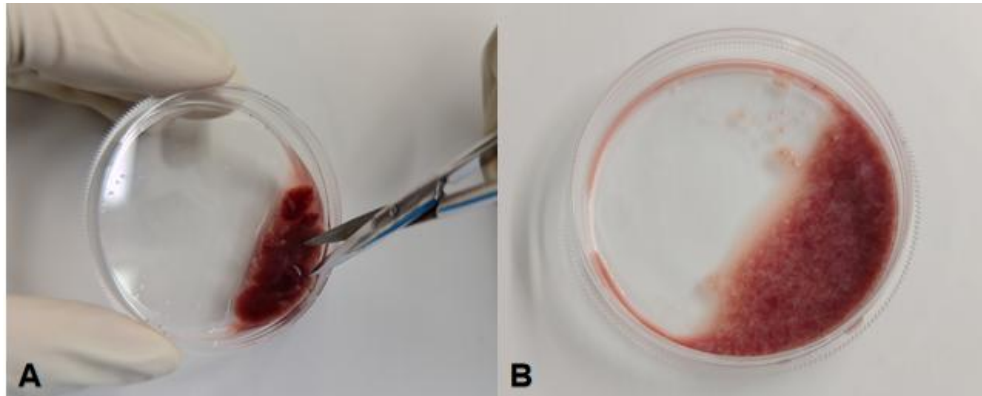

Figure 1. Treatment of liver tissue in vitro
- (1) Tissue Washing: Using a new set of ophthalmic scissors 3, curved forceps 1, bend forceps 1 to clamp the junction of the liver lobes and gently shake the liver tissue. At this time, blood stains flow out. discard the liquid in the dish and add new wash solution until the tissue is completely immersed. Rinse the tissue 2-3 times and use ophthalmic scissors 3 and curved forceps 1 to clean the blood stains, bile ducts, and blood vessels around the liver to obtain pure tissue. Transfer the tissue to a new glass culture dish, Add a little of **Specialized Washing Solution For Mouse Kupffer cells** until it just covers the tissue.
- (2) **Tissue Processing:** Tilt the dish about 45° to allow the liver tissue to gather at the bottom of the dish(which can be gently scraped off with curved forceps 1). Quickly cut the tissue into 1 mm³ pieces using ophthalmic scissors 3, until the tissue is sugar like (as shown in Figure 1) and there are no large pieces of tissue. Use a Pasteur pipette or a pipette with a wide mouthed tip to transfer the tissue fluid and transfer it to a 50 mL centrifuge tube. Add 5 mL **Specialized Washing Solution For Mouse Kupffer Cells** to clean the liver tissue culture dish and transfer it to the same centrifuge tube. Centrifuge at 300 g for 1 min, discard the supernatant, and retain the tissue precipitate.
- (3) **Tissue Digestion:** Add 5 mL of **Digestive Working Solution for Mouse Kupffer Cells** to the 50 mL centrifuge tube tissue sediment, blow and mix well, tighten the bottle mouth, wrap it with a sealing film to ensure no leakage, tilt it to allow tissue fragments to fully contact the digestion solution at 4°C for 16 hours of digestion (digestion time should not exceed 16 hours, as excessive digestion will have a significant impact on cell activity).
- (4) After digestion, remove the centrifuge tube and transfer it to a 37°C water bath shaker at 150 rpm for 15 minutes of digestion..
- (5) In the ultra-clean workbench, place a 70 µm Cell filter and 100 µm Cell Filter on a new 50 mL centrifuge tube. Pre-wash the filter with 1–2 mL Specialized Washing Solution For Mouse Kupffer Cells.
- (6) **Cell Filtration:** Remove the centrifuge tube and open it in the ultra-clean workbench. Blow the tissue suspension with a 5 mL pipette tip at least 30 times. Add 5 mL of **Specialized Washing Solution For Mouse Kupffer Cells** to dilute. Take the cell suspension at this time and filter it through a 100 µm cell filter and a 70 µm cell filter in sequence to collect the filtrate.